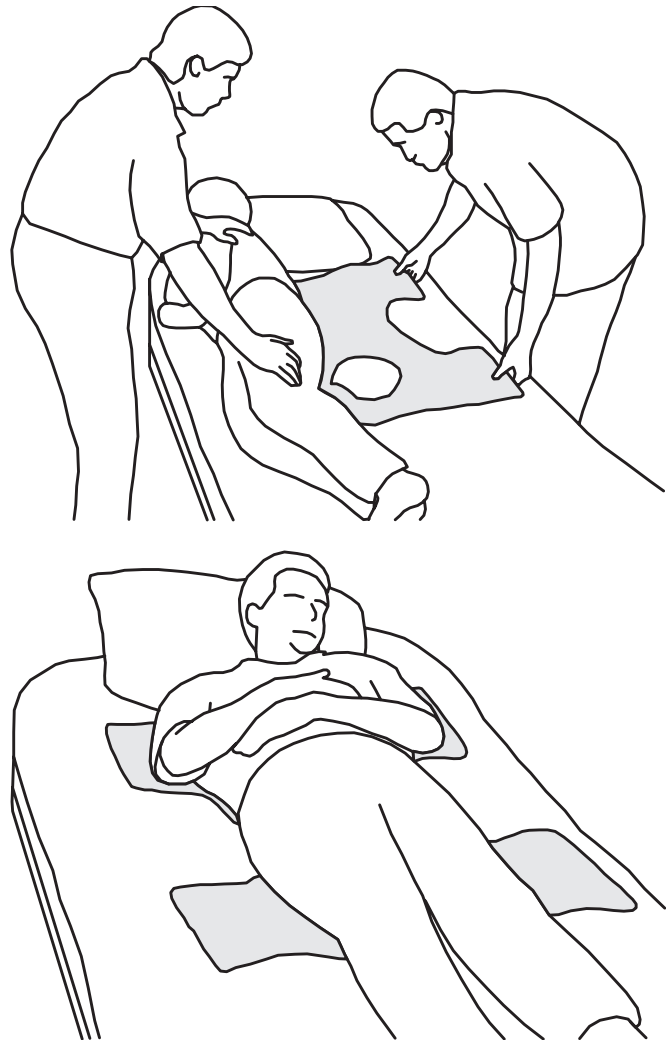

FIGURE 3 - ROLLING PATIENT ONTO HIS/HER OPPOSITE SIDE AND BACK
4. Roll the patient on to his/her back (FIGURE 3).
6. With an attendant on each side of the bed and up against the mattress, the attendant on the right-hand side of the bed will elevate the LEFT KNEE and position his/her LEFT-HAND on the elevated KNEE and his/her RIGHT-HAND under the patient's LEFT SHOULDER. The attendant will slowly push on the knee and assist with a slight lift of the shoulder and the patient will easily roll onto their side (FIGURE 3).
7. Pull the fabrics of the seat and back across the mattress until they are smooth (FIGURE 3).
8. Roll the patient onto their back and they should be approximately centered on the sling (FIGURE 3).